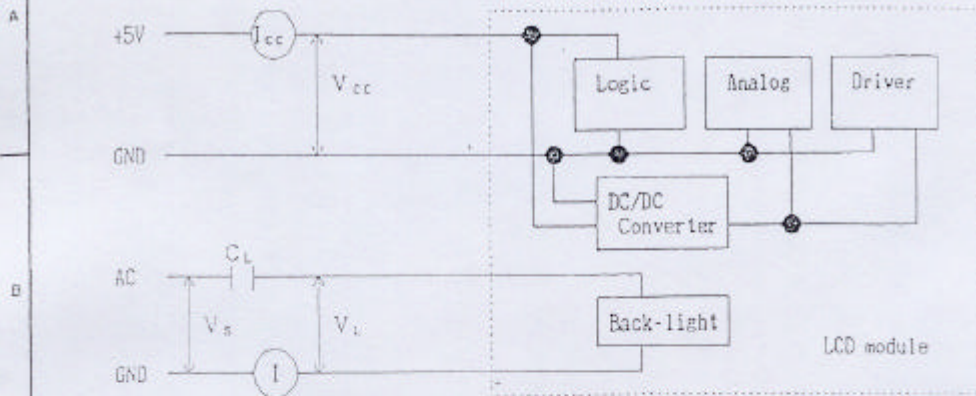

Figure 8-1 Measurement circuit
Table 8-1 shows the electrical specifications of this LCD module. Figure 8-1 shows the measurement circuit. Figure 8-2(A) shows the equivalent circuit of the logic signal input area. Figure 8-2(B) shows the equivalent circuit of the supply voltage input area.
Measurement circuit is based on Figure 8-1.